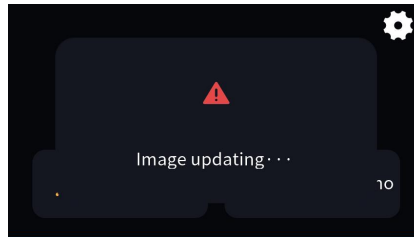
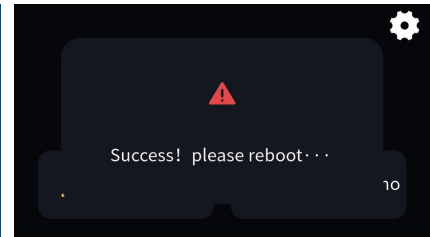
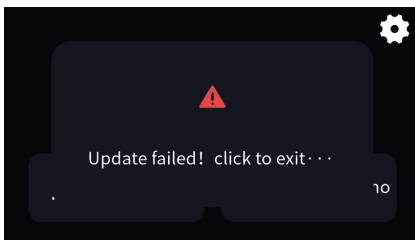

Fig.4.2.2
Fig.4.2.3
Fig.4.2.4
② Update pictures: when there is a folder named “Functionicon” in the USB storage device, and there is a picture in accordance with valid name and format, then it will update and store (even if the picture is the same as the last saved).
3. Click “Confirm” to update picture; after upgrade, there will pop up a window of the result, if upgrade is successful, then reboot the device manually to apply the new function icons to the system; if upgrade is failed, click any area outside the window to return to the page, as shown in Fig.4.2.2, Fig.4.2.3 and Fig.4.2.4.